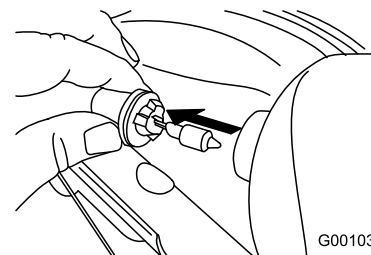

Figure 64
- Remove the bulb straight out from the back of the headlight (Figure 64).